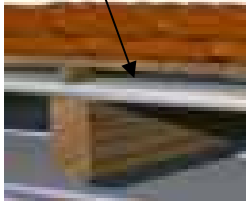

Fig 2
5. Overlap the insulation 50-100mm at each joint and staple every 50mm onto the rafter or timber support batten. Fig 2